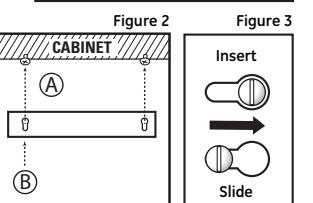

Figure 4
8. Attach the quick-connect power cord with the plug and 3-pin quick connector to the fixture closest to the outlet. See **Figures 4 and 5**.